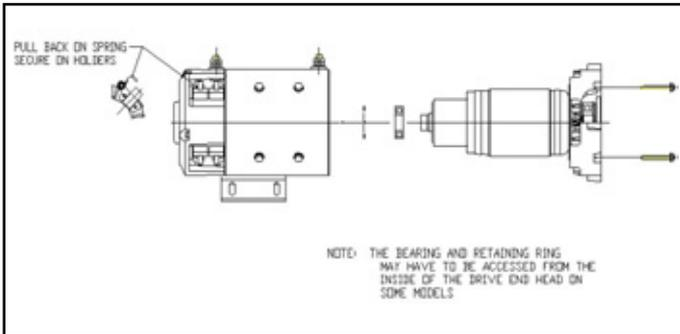

Figure 1. Exploded view of Drive End Locked Motor
1. Pull back the brush springs and latch them on the holders in the open position (or if the brush box assembly has no holders, pull the springs out, pull the brush back and rest the springs on the side of the brush). See Figure 1. The brushes should move freely within the holders.